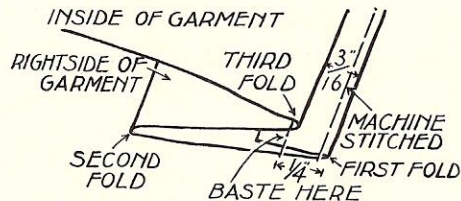

Fig. 18. Preparation of Material for Making Circular Invisible Hem with Gathered Edge
### No. 6. CIRCULAR HEM (See Figs. 18 and 20)
- D. Make second fold the depth of hem desired and hand baste  $1/4$ " from upper edge of hem, as shown in Fig. 18.